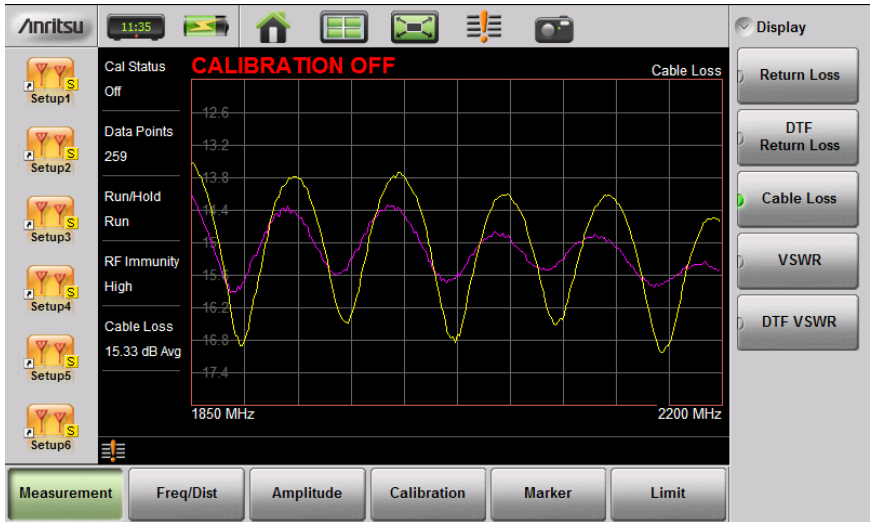

Figure 10-10. Recalled Measurement and Active Trace
- Figure 10-10 illustrates a recalled measurement and active trace.
The recalled measurement is the purple trace and is overlaid on the current active (yellow) trace. In Figure 10-10, the recalled measurement is used to compare the cable loss of two different RF cables. Recalled measurements are automatically saved to trace memory for use in trace match functions. To see the recalled measurement and the current measurement simultaneously, select **Trace & Memory** in the **Trace Display** submenu. Refer to “Trace” on page 3-47.